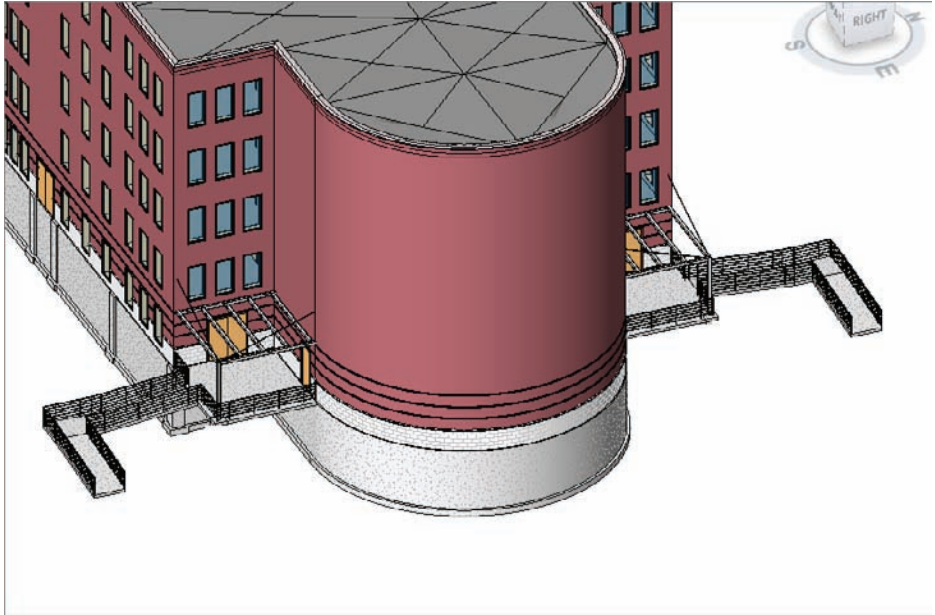

FIGURE 10.88 The two ramps
6. Mirror the slab, the ramp, and the railing to the other side of the building, as shown in Figure 10.88.